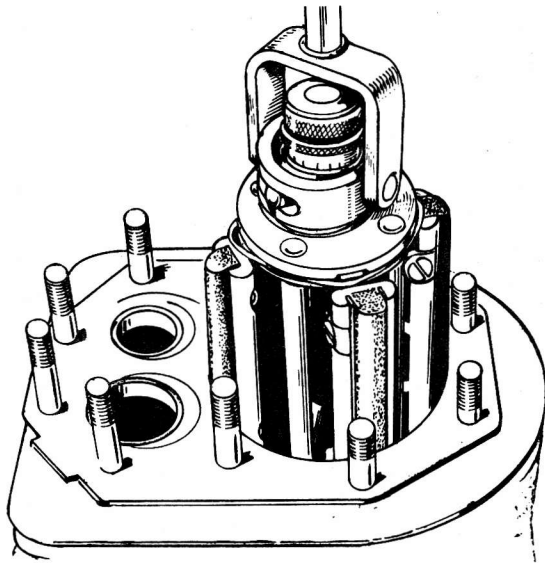

FIGURE 24. HONING CYLINDER
1. A hone can be used to rebore a cylinder (Figure 24). Remove stock to 0.002 inch (0.051 mm), undersize of finish bore with coarse hone (100 grit), then complete honing with finish hones (300 grit).